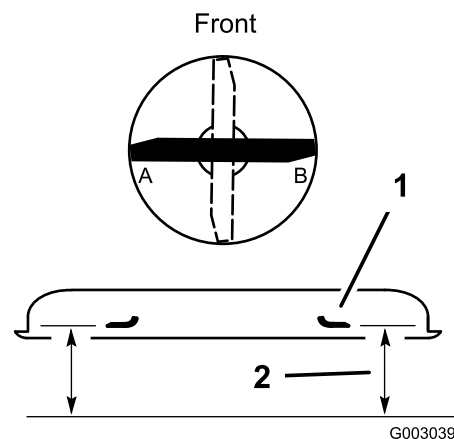

Figure 53
2. Position the blade side-to-side (Figure 53). Measure at **A** and **B** locations (Figure 53) from a level surface to the cutting edge of blade tips (Figure 53).